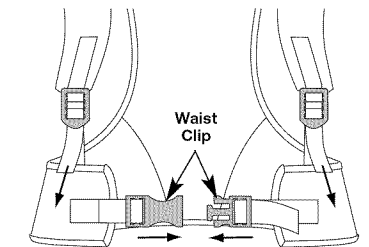

Fig. 16
2. Connect both ends of the waist clip (Fig. 16).
3. Adjust shoulder buckles and waist clip, by pulling or releasing the straps, for the best possible comfort and support (Fig. 16).